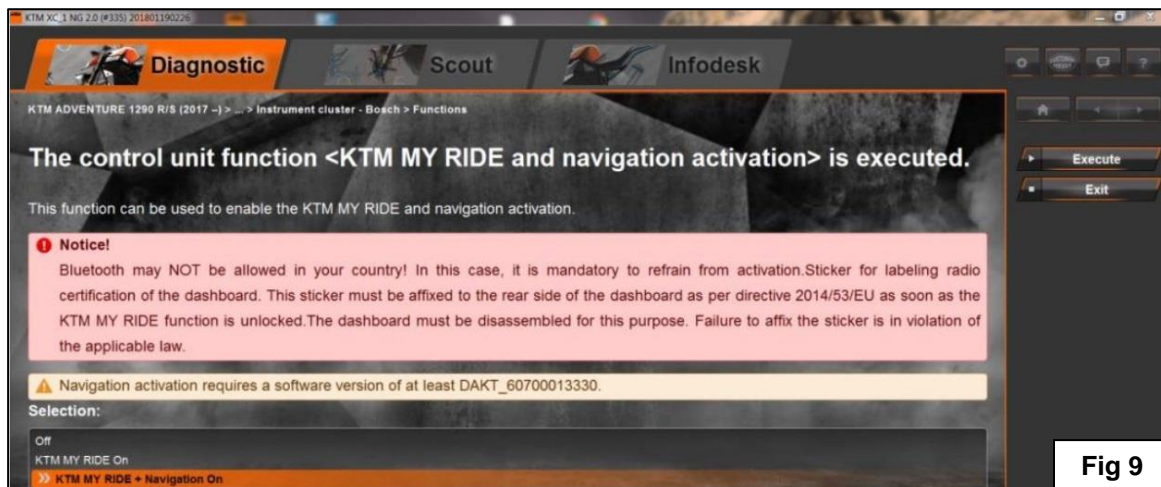

Fig 9
8. To enable the MY RIDE with Navigation, select the option to provide it (**Fig 9**).